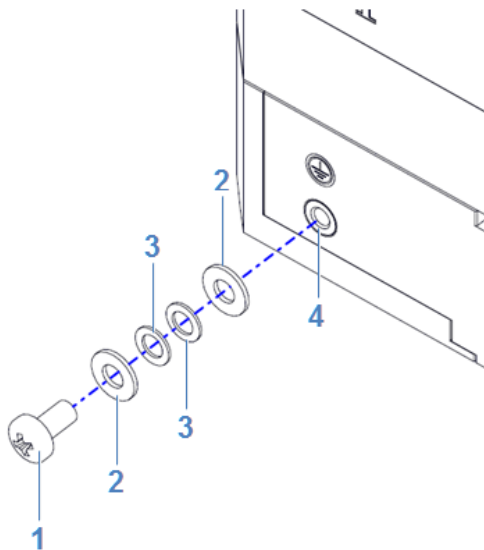

Figure 6: Protective earth connection set-up (explosive view)
2. Remove the screw and the safety and flat washers of the protective earth connection (p. Figure 6).